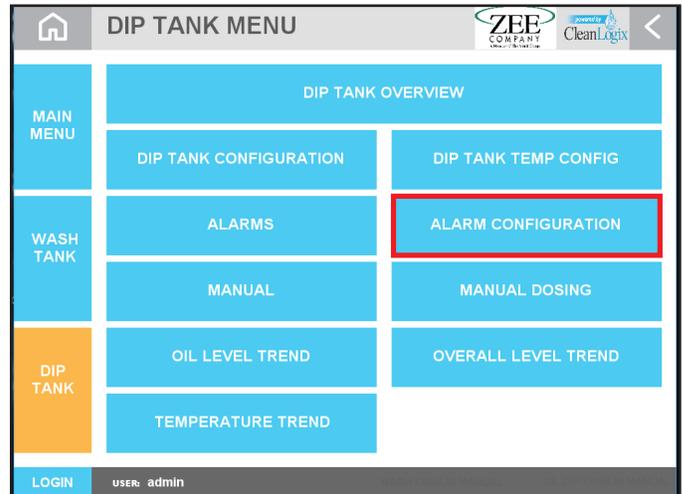

Figure 8.1: Dip Tank Menu, Alarm Configuration selection
2. Navigate to **DIP TANK > ALARM CONFIGURATION** [Figure 8.1].